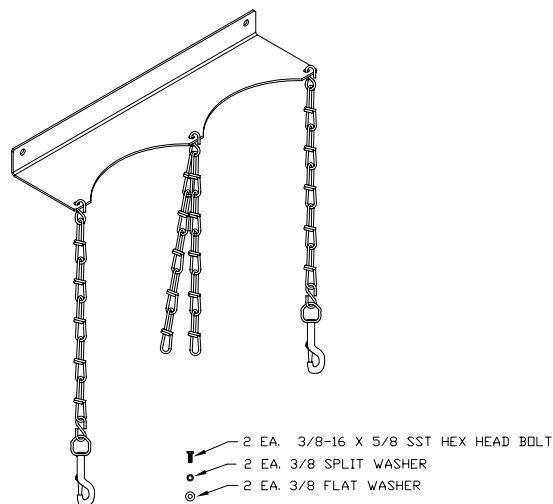

Figure 34 Dual Bottle Rack Assembly
- 1) Place a lock washer, then a flat washer on one of the 5/8" bolts and insert through bolt hole located in the Bottle Rack Bracket into the corresponding hole located along the bottom edge of the enclosure and tighten (see Figures 34–35).